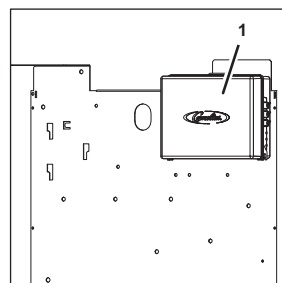

Figure 116
1. Open the cover (Figure 116/1) of control system 1.
9. Close the cover (Figure 116/1) of the control system.